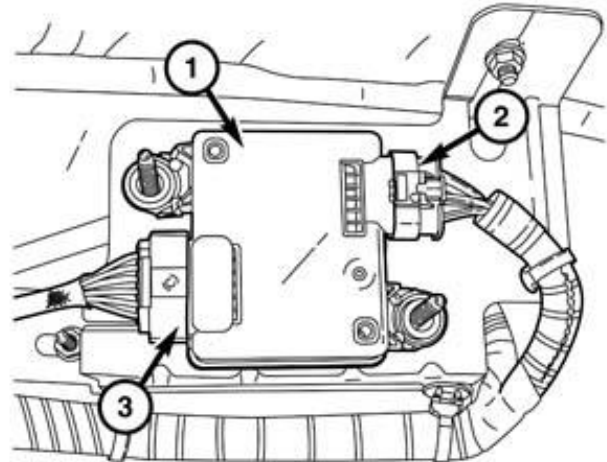

Figure 4 – NOx Sensor Harness
NOTE: DO NOT try to disconnect wire harness connector (3) from NOx sensor module (1) (Figure 4).
9. Disconnect the NOx sensor wire harness connector (2) (Figure 4).